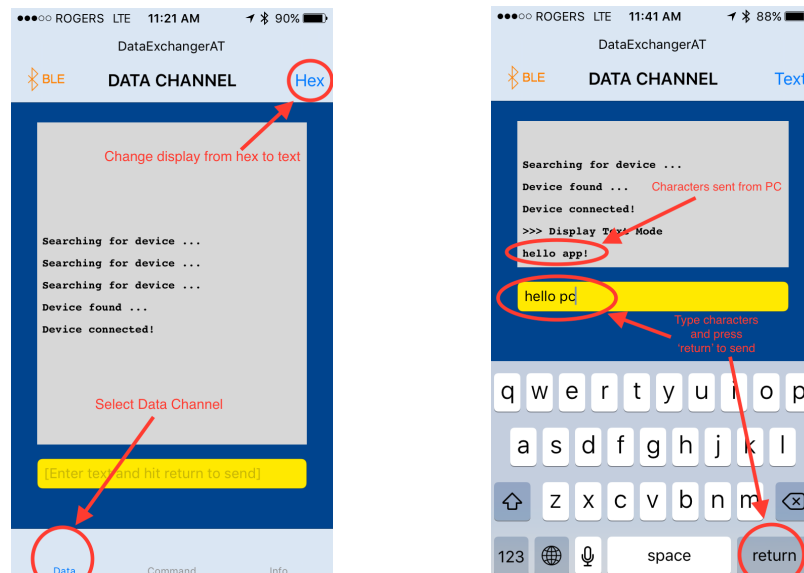

Figure 2
7. See Figure 2 for some screen shots.